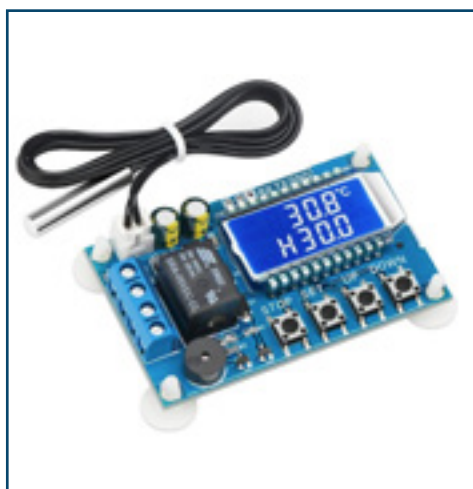
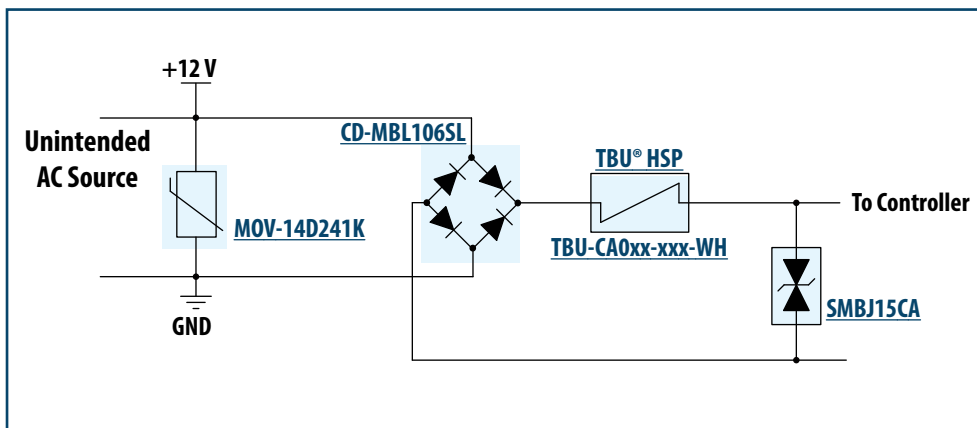

Figure 1: 12 Vdc temperature controller
Figure 4: . Incorrect polarity connection protection solution with diode bridge
1. A controller is meant to be powered by 12 Vdc, but a field technician may accidentally connect between a 12 Vdc and 120 Vac power line. If the controller (Figure 1) is connected directly to 120 Vac, then the unit will be damaged, absent proper protection.
If the circuit needs to be protected from incorrect polarity, a diode bridge may be installed as shown in Figure 4.
Both circuits in Figure 1 and Figure 4 will protect from connecting to an incorrect power supply that is above 15 Vdc. Whenever the input voltage exceeds 15 Vdc, the same operations function as described above.